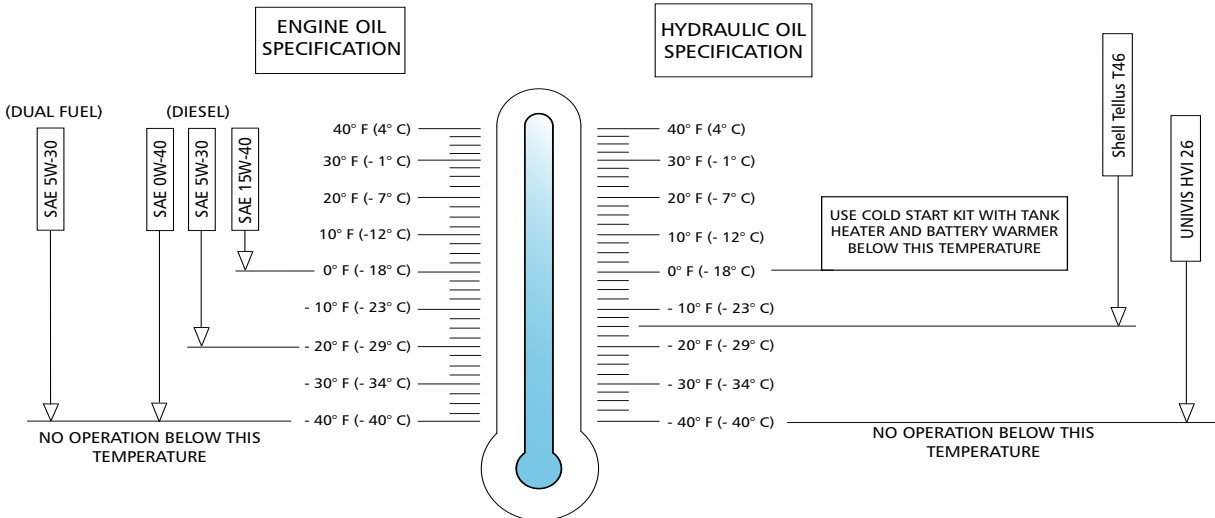

Figure 25 Cold Weather Operation Chart
- Refer to the cold weather operation chart (Figure 25) to assist in operating the MEWP in cold weather conditions.